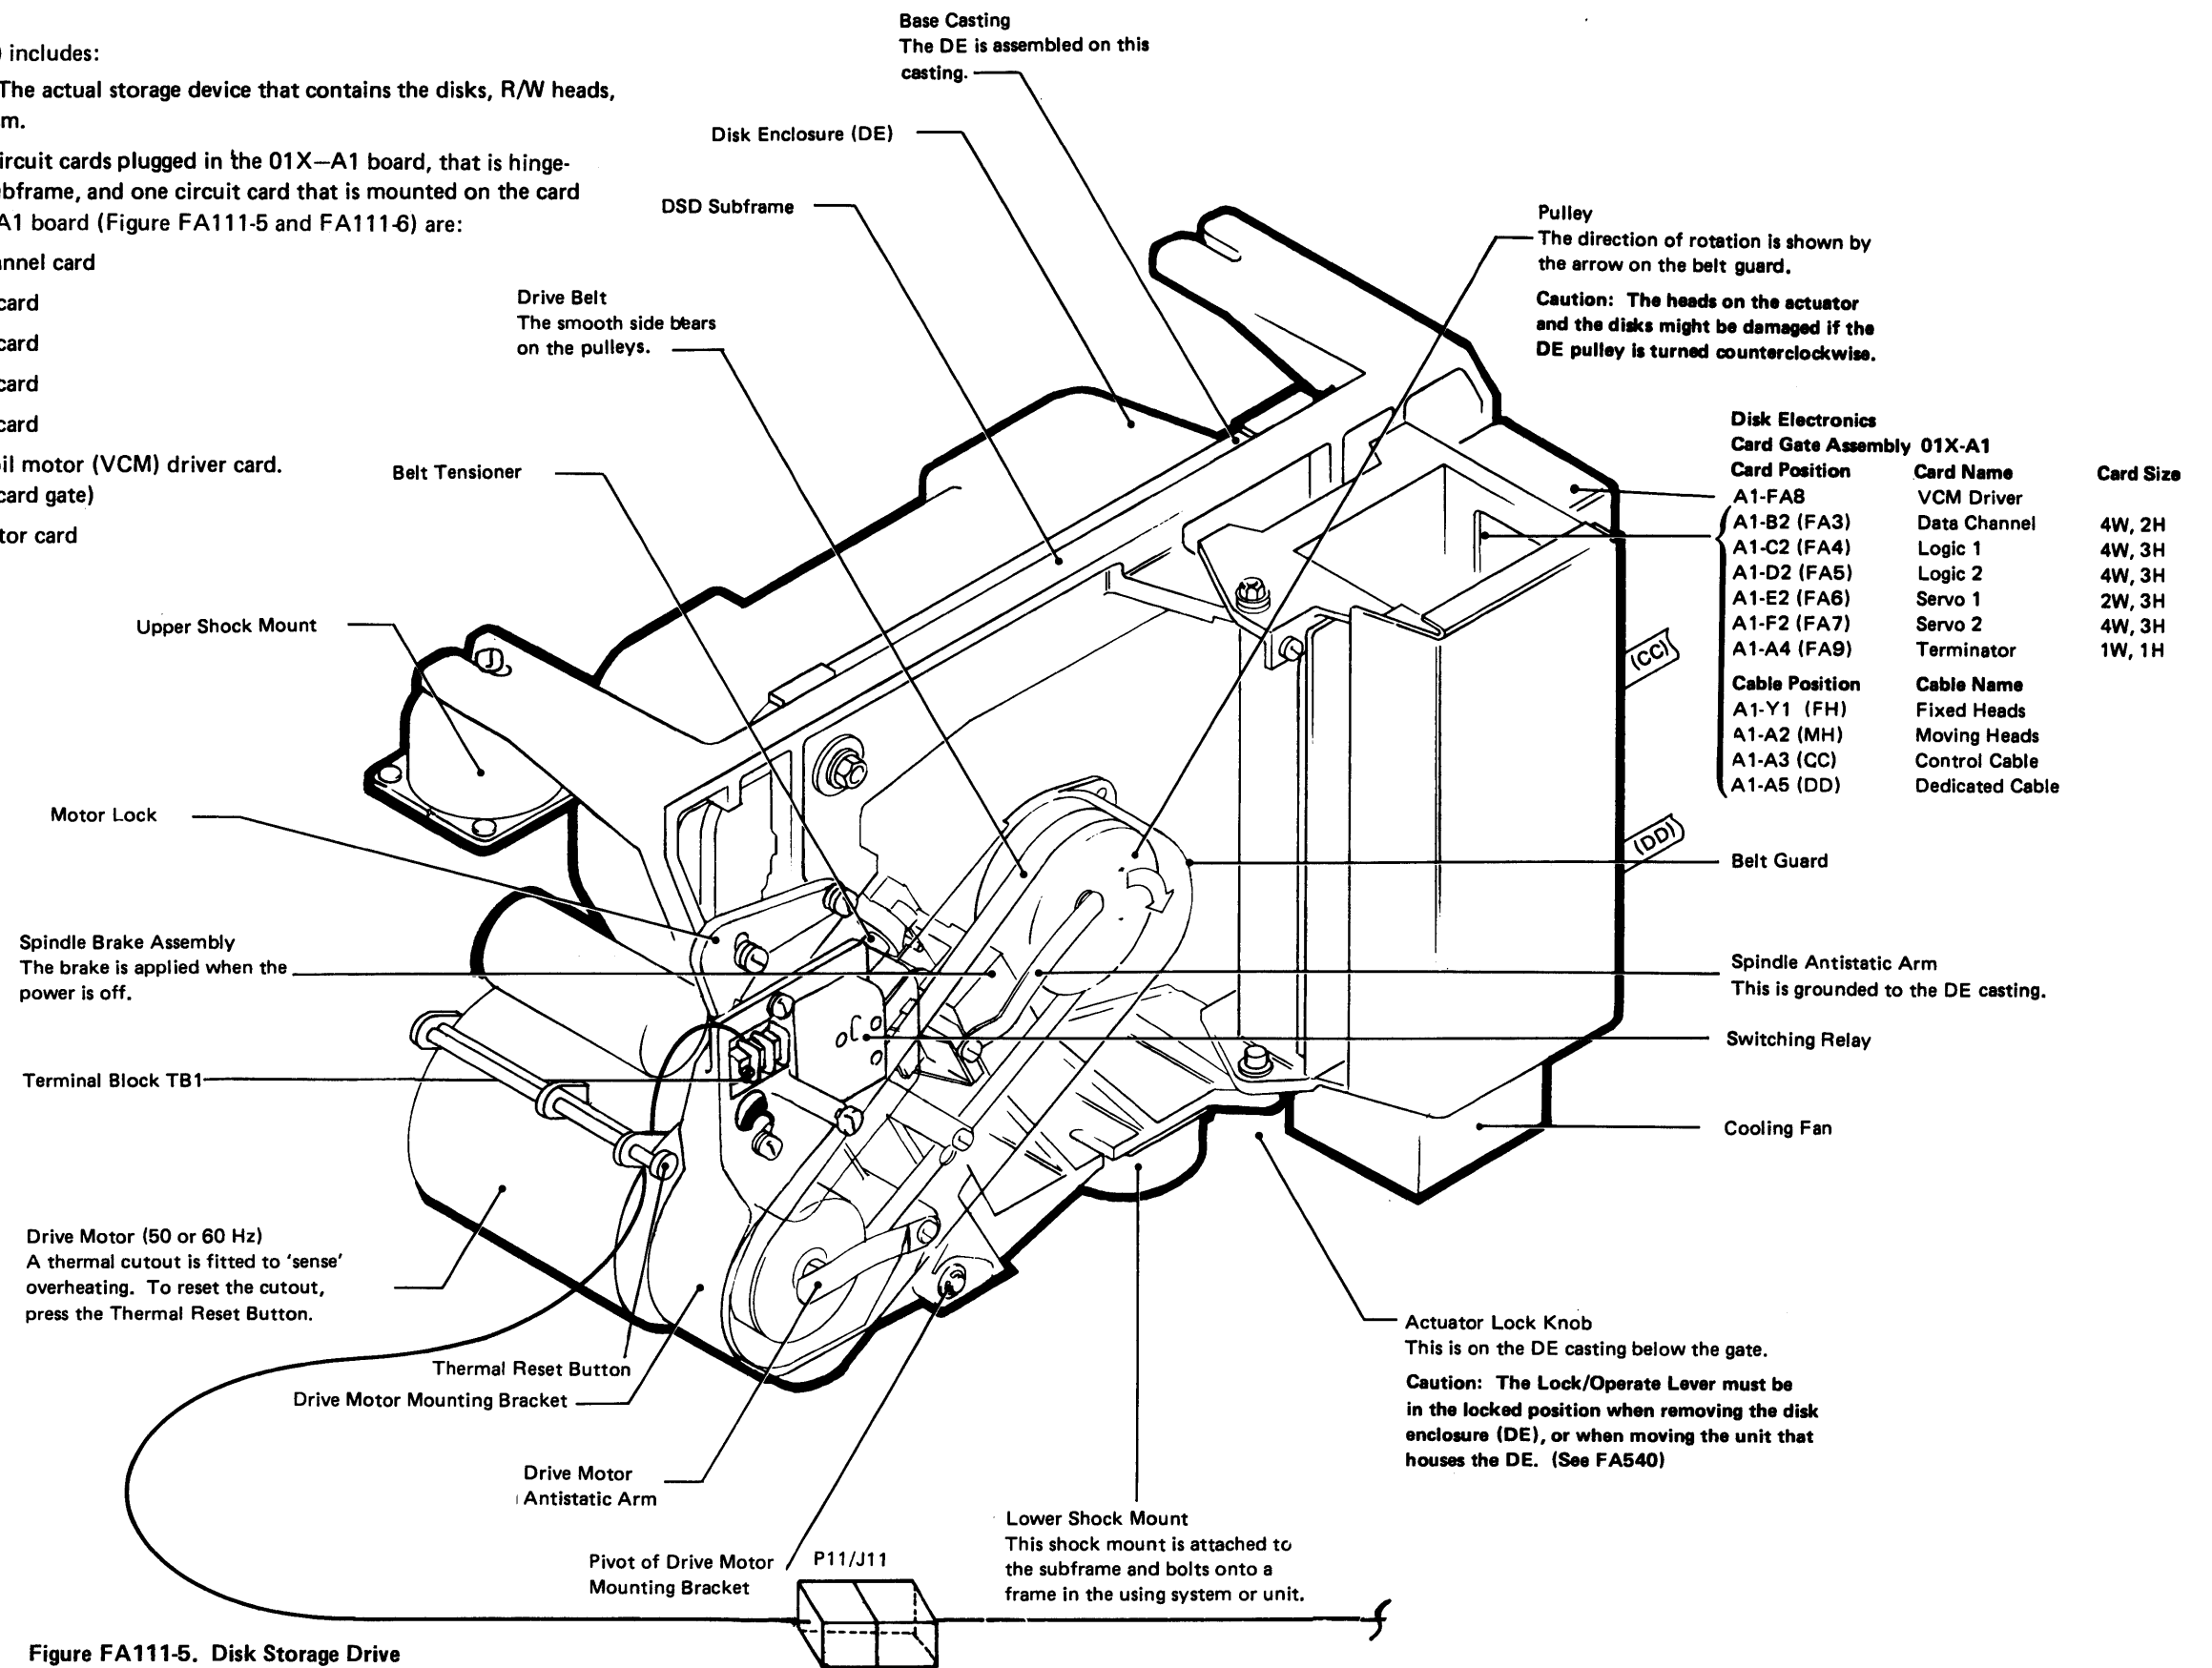

Figure FA111-5. Disk Storage Drive
The DSD (Figure FA111-5) includes:
- Disk Enclosure (DE) – The actual storage device that contains the disks, R/W heads, and the access mechanism.
- Disk electronics – Six circuit cards plugged in the 01X-A1 board, that is hinge-mounted on the DSD subframe, and one circuit card that is mounted on the card gate. The cards on the A1 board (Figure FA111-5 and FA111-6) are: